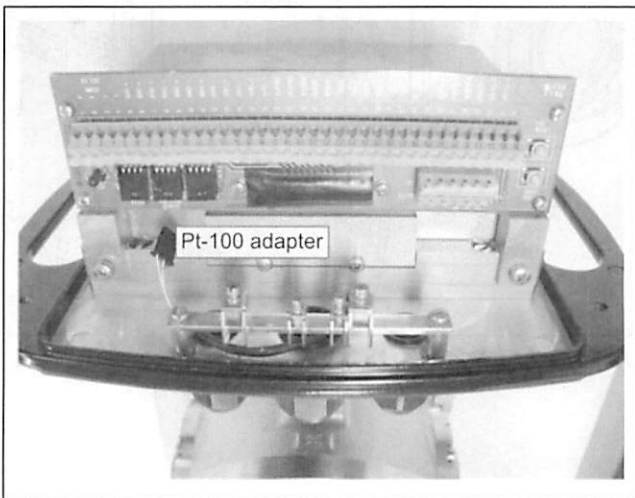

Fig. 5.
- Remove the PT-100 adapter from the Field Connection Board (Figure 5).